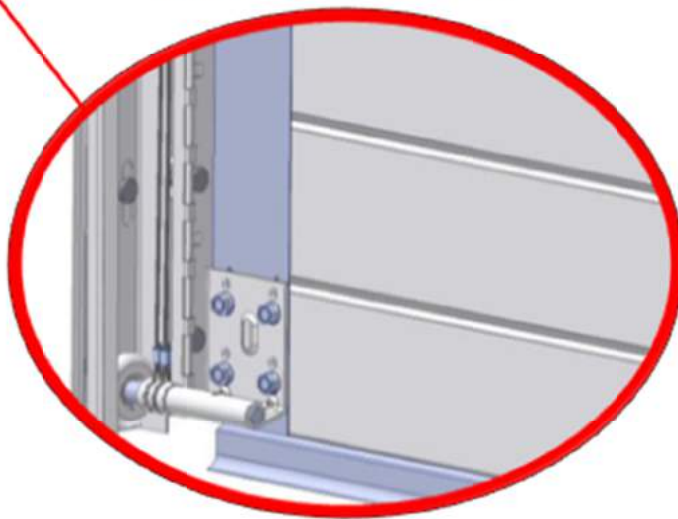

Figure 26: zoom on bottom bracket
- A bottom bracket (either ref. SG036PL or SG036PR) using 4 self-tapping screws 15 mm (ref. SG041P0) (see zoom of figure 26).
- Thread the end of the preassembled cables (nylon bush) through the centre of the roller (ref. SG210T0) before placing the roller in the bottom bracket (See figure 26).